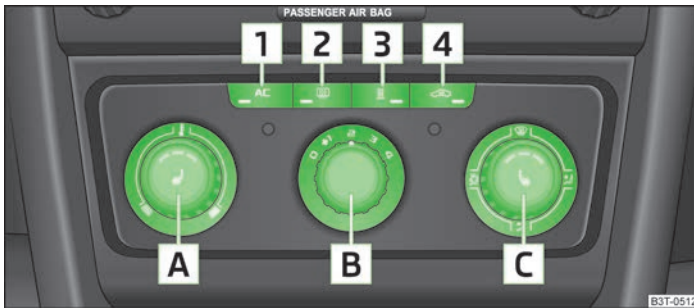

Fig. 108 The air conditioning system: Control elements
The cooling system only operates if the button  1 » Fig. 108 on page 95 is pressed, and the following conditions are met:
- Turn the control dial **A** » Fig. 108 to the right to increase the temperature.
- Press the button **4** to close the fresh air supply » Fig. 108.
- Press the button (AC) **1** » Fig. 108. The indicator light lights up in the button.
- When you again press the button (AC), the air conditioning system is switched off. The indicator light in the button goes out.
- Controls **A**, **B**, **C** and the button **1** and **4** » Fig. 108 on page 95.
- Press the button **4** » Fig. 108 on page 95 and the indicator light in the button illuminates.
Recirculated air mode is switched off automatically if the air distribution control **C** » Fig. 108 on page 95 is turned to position . Recirculated air mode can be switched on again from this setting by repeatedly pressing the button .